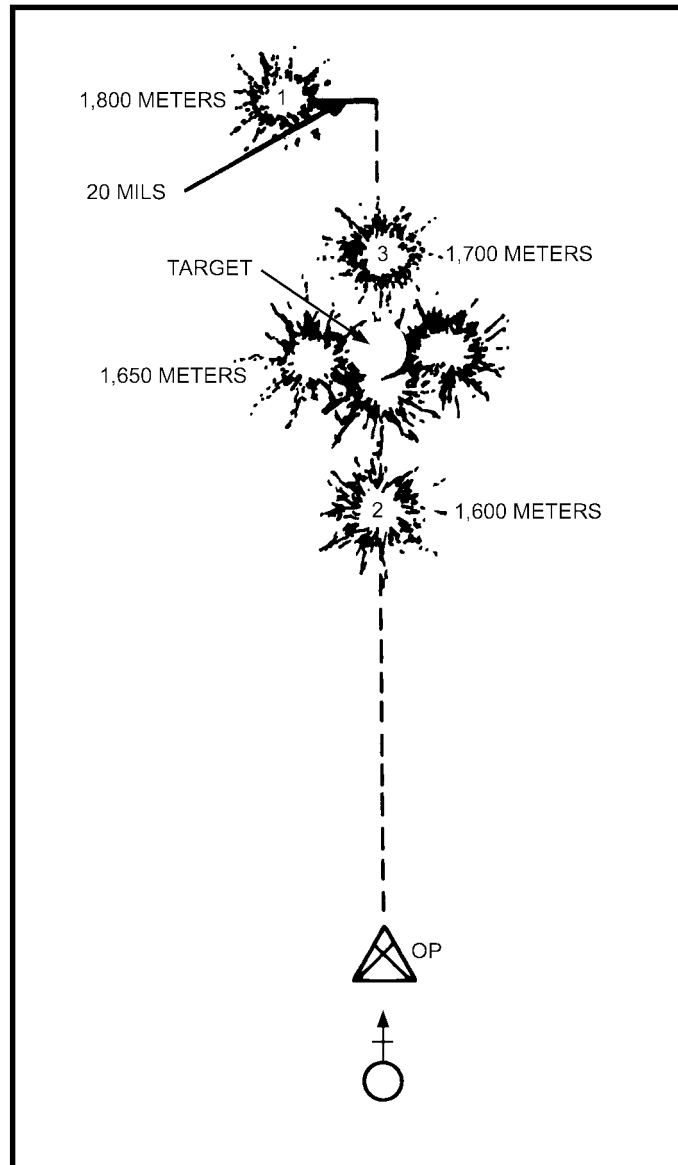

Figure 8-4. Bracketing method.
When the first definite range spotting is obtained, the FO should make a range correction that is expected to result in a range spotting in the opposite direction—for example, if the first definite range spotting is SHORT, the FO should add enough to get an OVER with the next round. The inexperienced FO should use the following guide to determine the initial range change to establish a bracket (Figure 8-4).
d. This third round bursts beyond the target and on the GT line (Figure 8-4). A 100-meter range bracket has now been established. In his next fire command, the squad leader combines the adjustment with FFE: